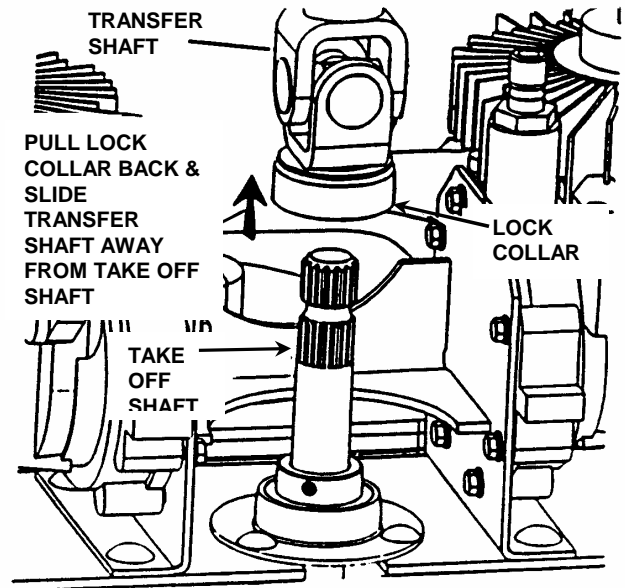

FIGURE 3.13
7. Pull lock collar back and slide power transfer shaft away from power take off shaft (located on power unit below hydro pumps). See Figure 3.13.
Engage parking brake. Turn engine "OFF" and remove key. The power transfer shaft connects the power unit to the mower deck. The shaft is telescoping for easy removal. Slide locking collar back toward mower deck and shaft will slide off. See Figure 3.13.